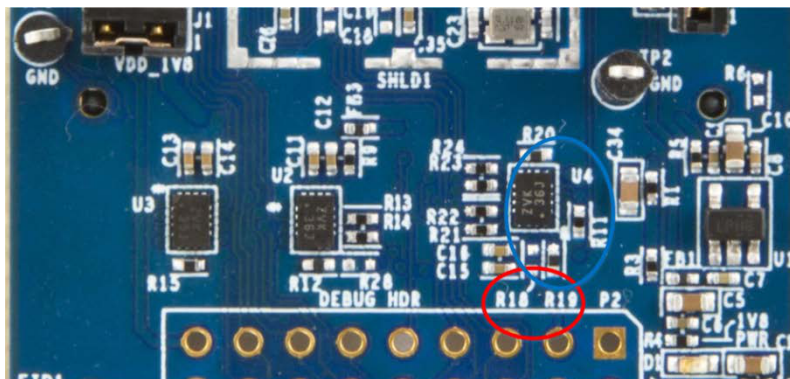

Figure 14. Resistors to Change the Direction of PCM
2. Remove resistor R19 on the U4 level shifter (see Figure 14).